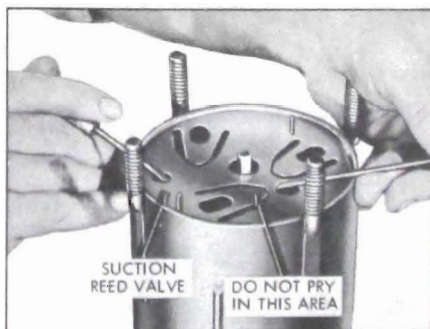

Figure 11-115—Removing Rear Suction Reed
17. If rear suction reed valve didn't come out with valve plate, carefully remove reed as shown with two small screwdrivers. See Figure 11-115. Replace reed valve if damaged.